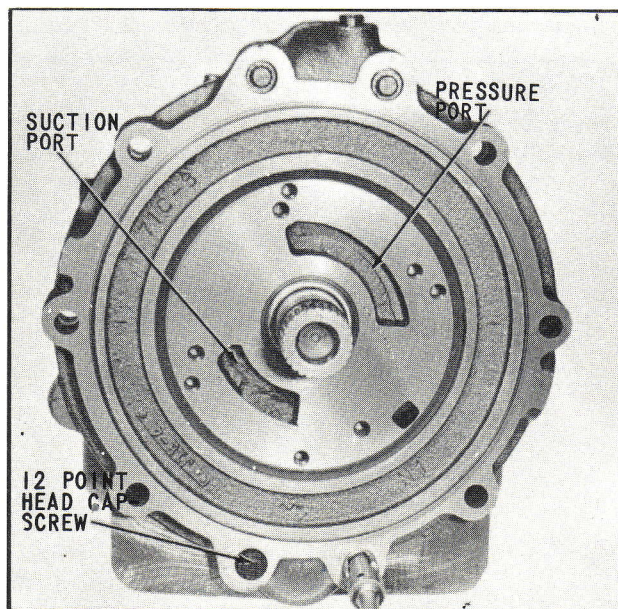

Fig. 61 Mounting Adapter to Case
adapter is squarely in place, install the four (4) cap screws, as shown in (Fig. 61). The adapter can now be pulled down squarely, until contact with the case is made, by alternately tightening the cap screws a small amount and checking frequently for binding. When adapter is pulled down as far as possible, tighten the four (4) cap screws to 27 to 37 pounds-feet torque.
The front pump assembly without the backing plate can only be used with the new (71C-A8) adapter (Fig. 61), the new key (4873), and the new version of the drive gear with the relocated pump keyway. For identification of the proper parts see (Fig. 90).
61. Place parts assembled in steps 1 through 56 inclusive as shown in (Fig. 61), after inspecting the adapter face for dirt and obstructions.